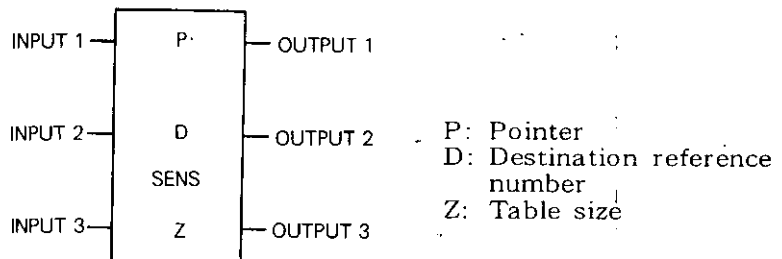

Fig. 5.86 SENS General Form
- Fig. 5.86 shows the form of sense.